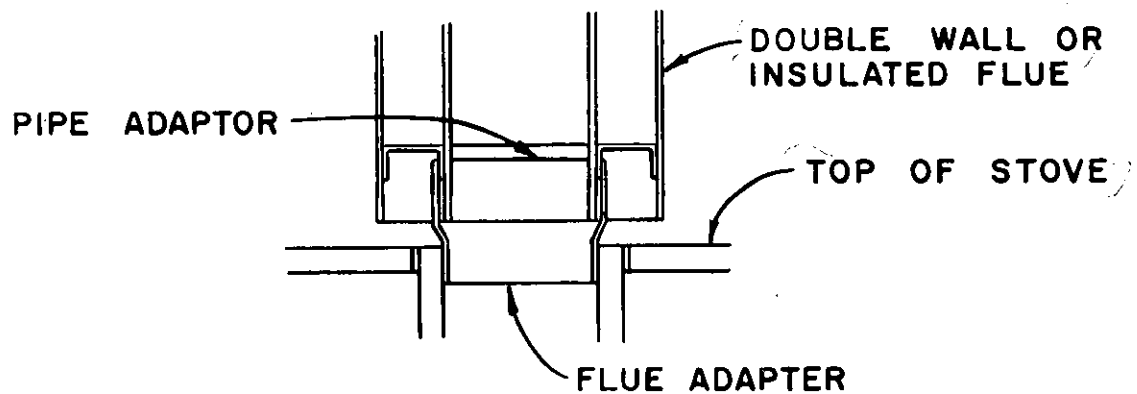

FIGURE 8
3. When using Dura-vent, Metalbestos, Security Chimney, or Jackes-Evans (GWS), a flue adapter must be used. (See Figure 8).
4. Install flue adapter on top of stove with the two screws located in the top opening of the Firebox. (See Figure 8)